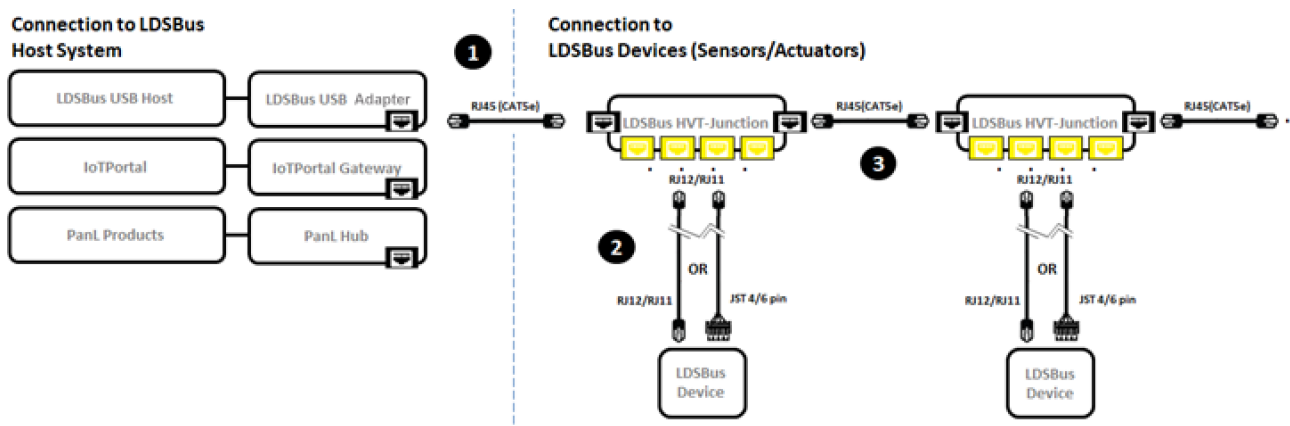

Figure 6 - LDSBus Multi Sensor to LDSBus - Connection Diagram
Figure 6 illustrates the connection of the LDSBus Multi Sensor (LDSBus Device) to the LDS Bus. For more detailed information on device installation, setup, and application, please visit <http://bit.ly/lgsbus-resources>.
2. Connect the configured LDSBus Multi Sensor to the LDSBus HVT-Junction as shown in Figure 6.
3. If there is more than one LDSBus HVT-Junction, chain them together as shown in Figure 6.